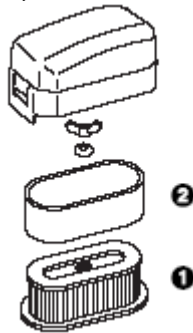

Figure 14
2. Remove cover over the air cleaner and clean cover thoroughly (Figure 14).
3. If foam element is dirty, remove it from paper element (Figure 14). Clean thoroughly as follows: